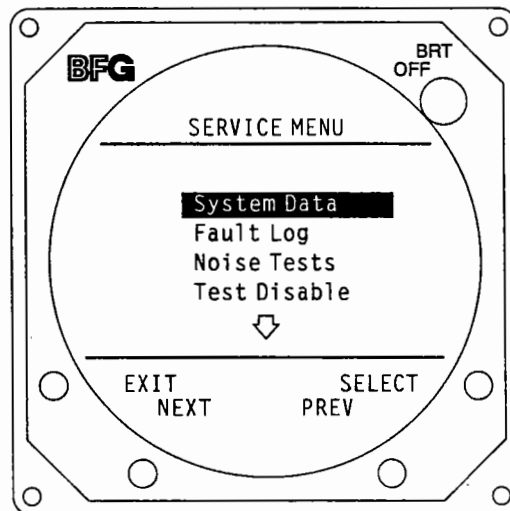
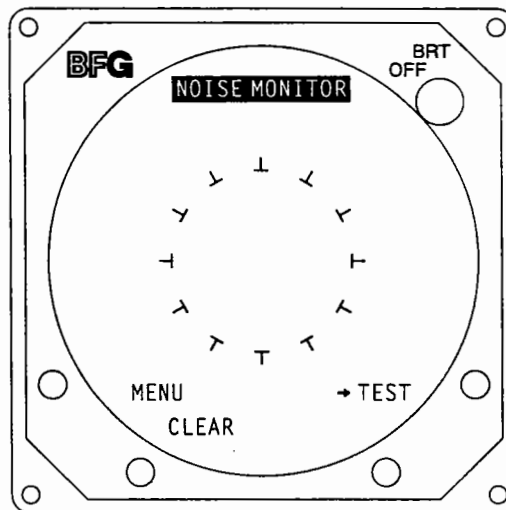

Figure 3-19. Service Menu Presentation
Figure 3-23. Noise Monitor Presentation
The Service Menu is accessed by holding buttons 1 and 2 (the left two buttons) depressed as the system is turned on. (The processor software version is indicated on the back end of the processor.) The Service Menu is shown in figure 3-19.
1. **MENU** switches the display back to the Service Menu (figure 3-19).
Pressing **SELECT** with Noise Tests high-lighted on the Service Menu (figure 3-19) will cause the **NOISE MONITOR** screen to appear. The **NOISE MONITOR** display is shown in figure 3-23.
The buttons perform the following functions (figure 3-23):
1. **MENU** returns the display to the Service Menu (figure 3-19).
Pressing **SELECT** with Test Disable high-lighted on the Service Menu (figure 3-19) will cause all the *Stormscope* system self-tests to be discontinued.
Pressing **SELECT** with Expansion Data high-lighted on the Service Menu (figure 3-19) will cause the **EXPANSION DATA** display to appear.
Pressing **SELECT** with Expansion Tests high-lighted on the Service Menu (figure 3-19) causes the first EXPANSION TESTS display to appear.